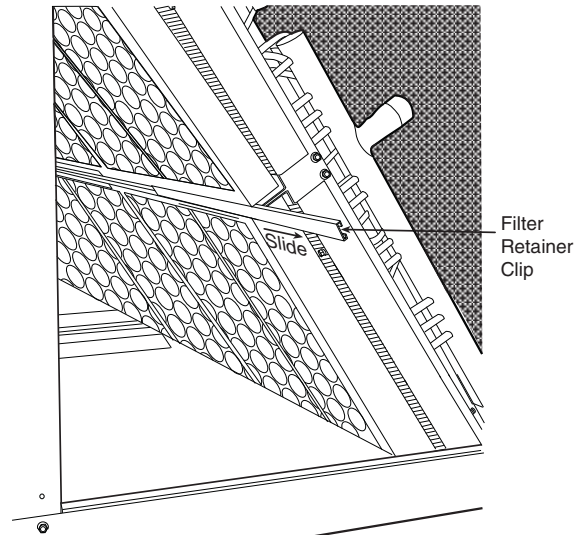

Fig. 42 — Remove Filter Retainer Clip
2. Remove the filter retainer clip (see Fig. 42).